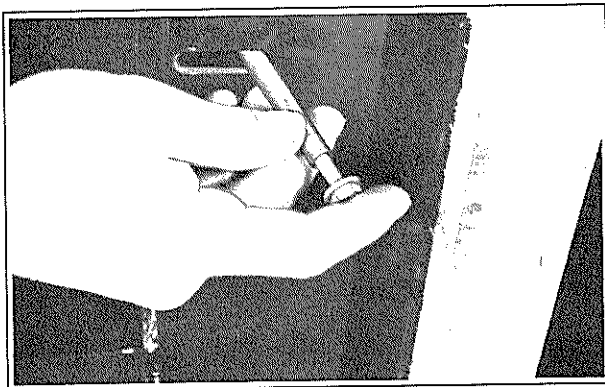

Figure 11
3. Release the motor and transmission assembly. To do this, tilt the unit and loosen the $\frac{1}{4}$ -inch cap screw the head of which can be seen just below the transmission housing. As soon as the bolt has been turned out of the boss in the transmission housing, tilt it toward the back of the base and the sleeve which supported the motor will drop out through the elongated slot in the base. (Fig. 11)